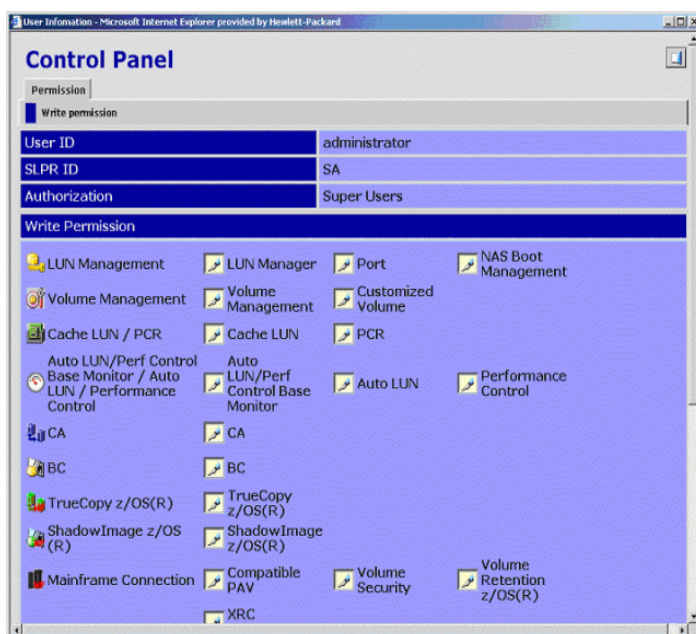

Figure 46 Write permissions window
- **Detail:** Click to access details about Write Permissions (see Figure 46).